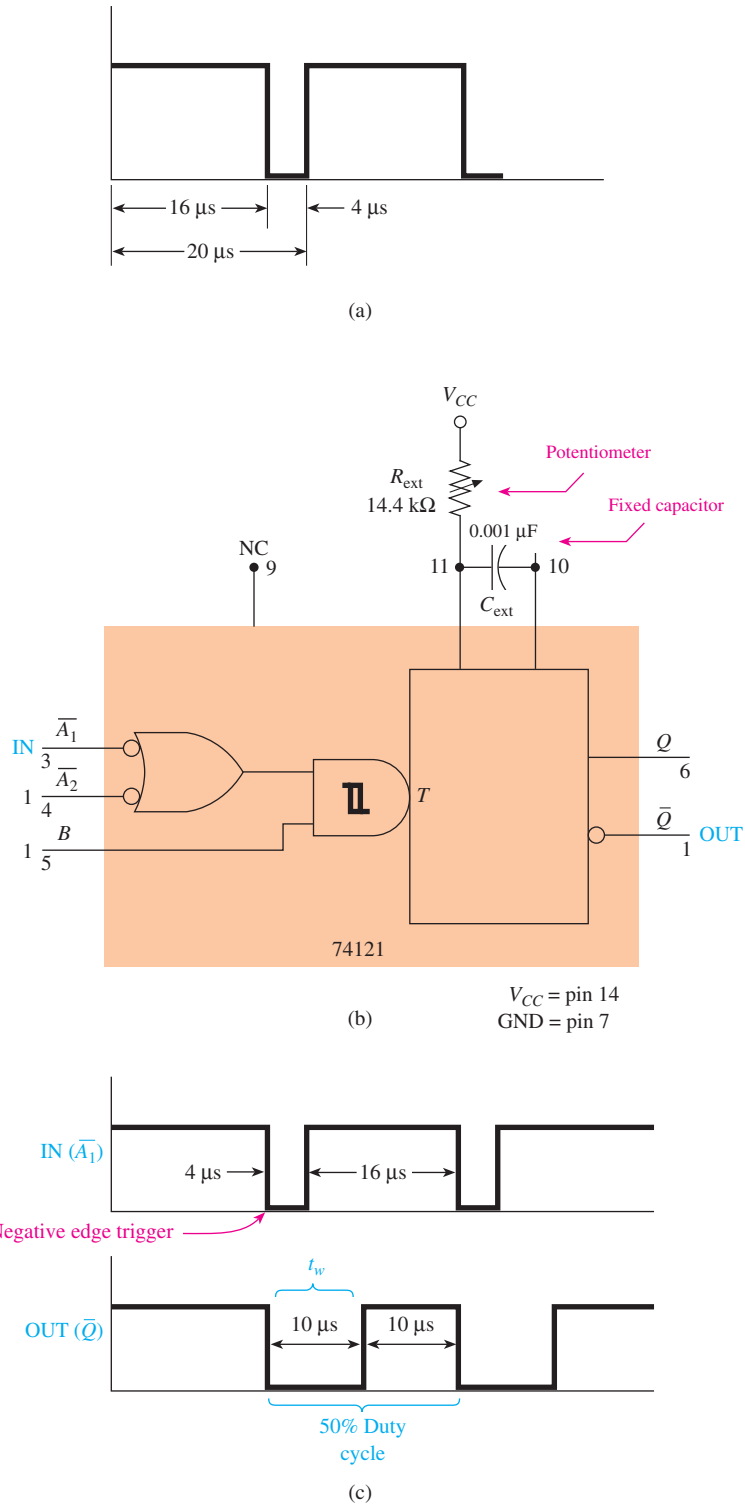
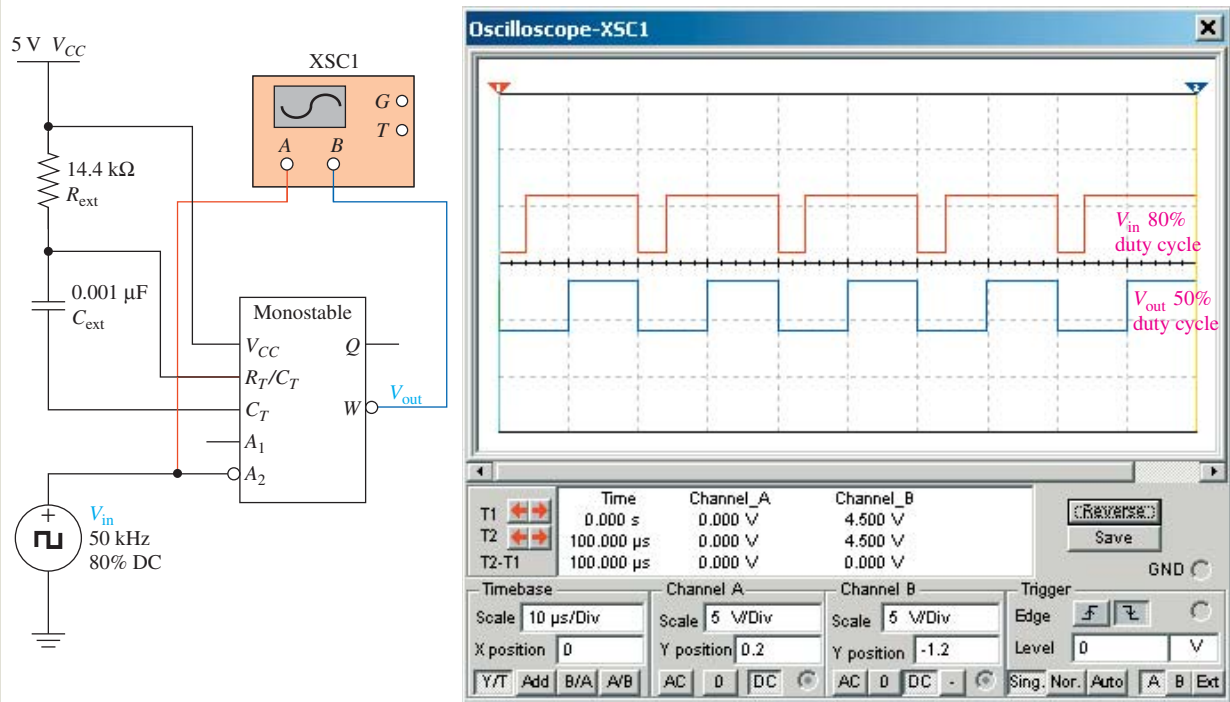

Figure 13 (a) Original square wave for Example 7; (b) monostable multivibrator circuit connections; (c) input/output waveforms.
Figure 14 Using MultiSIM[®] to simulate the timing waveforms of a monostable multivibrator.
Solution: First, let's draw the original square wave [Figure 13(a)] to see what we have to work with ($t = 1/50\text{ kHz} = 20\text{ }\mu\text{s}$, $t_{\text{HI}} = 80\% \times 20\text{ }\mu\text{s} = 16\text{ }\mu\text{s}$).
board. Also, resistances in the kilohm range are a good choice because they are big enough to limit current flow, but not so big as to be susceptible to electrostatic noise. The final circuit design and waveforms are given in Figure 13(b) and 13(c).
Figure 14 shows a MultiSIM[®] simulation of a monostable multivibrator. It is set up to duplicate Example 7. The input trigger (V_{in}) is applied to the active-LOW input (\overline{A}_2) and the output (V_{out}) is taken from the inverting output (\overline{W}).
- (a) Load the file *fig14* from the text companion website. Double-click the oscilloscope to expand its size, and then turn on the power switch. Turn off the power after the single sweep is complete. Drag vertical cursors #1 and #2 to measure T_{LOW} and T_{HIGH} of both the input and output waveforms. Your values should match those shown in Example 7 (Figure 13).